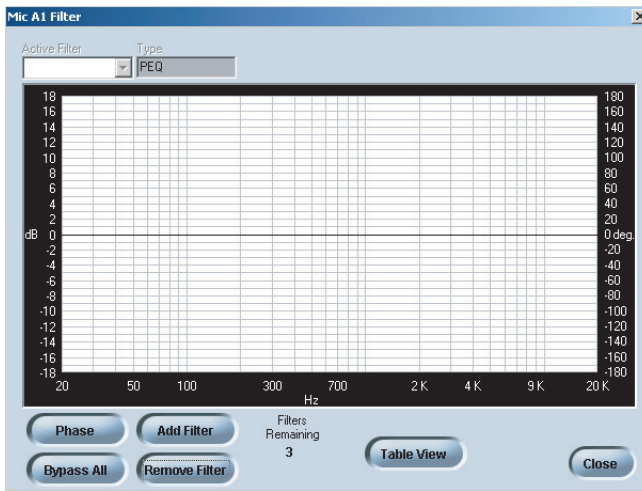

FIGURE 3.8 Microphone filter (filter graph view)
1. Click the **Filter** button. A pop-up window (see figure 3.8) appears for the selected microphone channel. The filter is displayed in Filter Graph view.